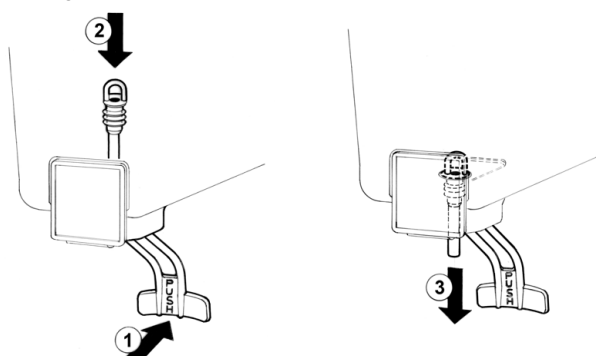

figure 6
- 2 **Pinch tube faucet:** push the dispensing handle (1) and insert the pinch tube into its vertical seat in the bowl bottom (2). Lightly pull the pinch tube end downwards till it is well arranged (3) (see figure 6).